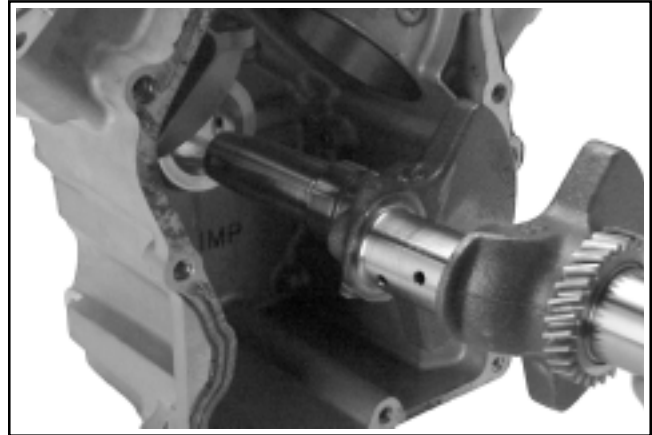

Figure 9-79. Removing Crankshaft.
1. Carefully pull the crankshaft out of the crankcase. See Figure 9-79.